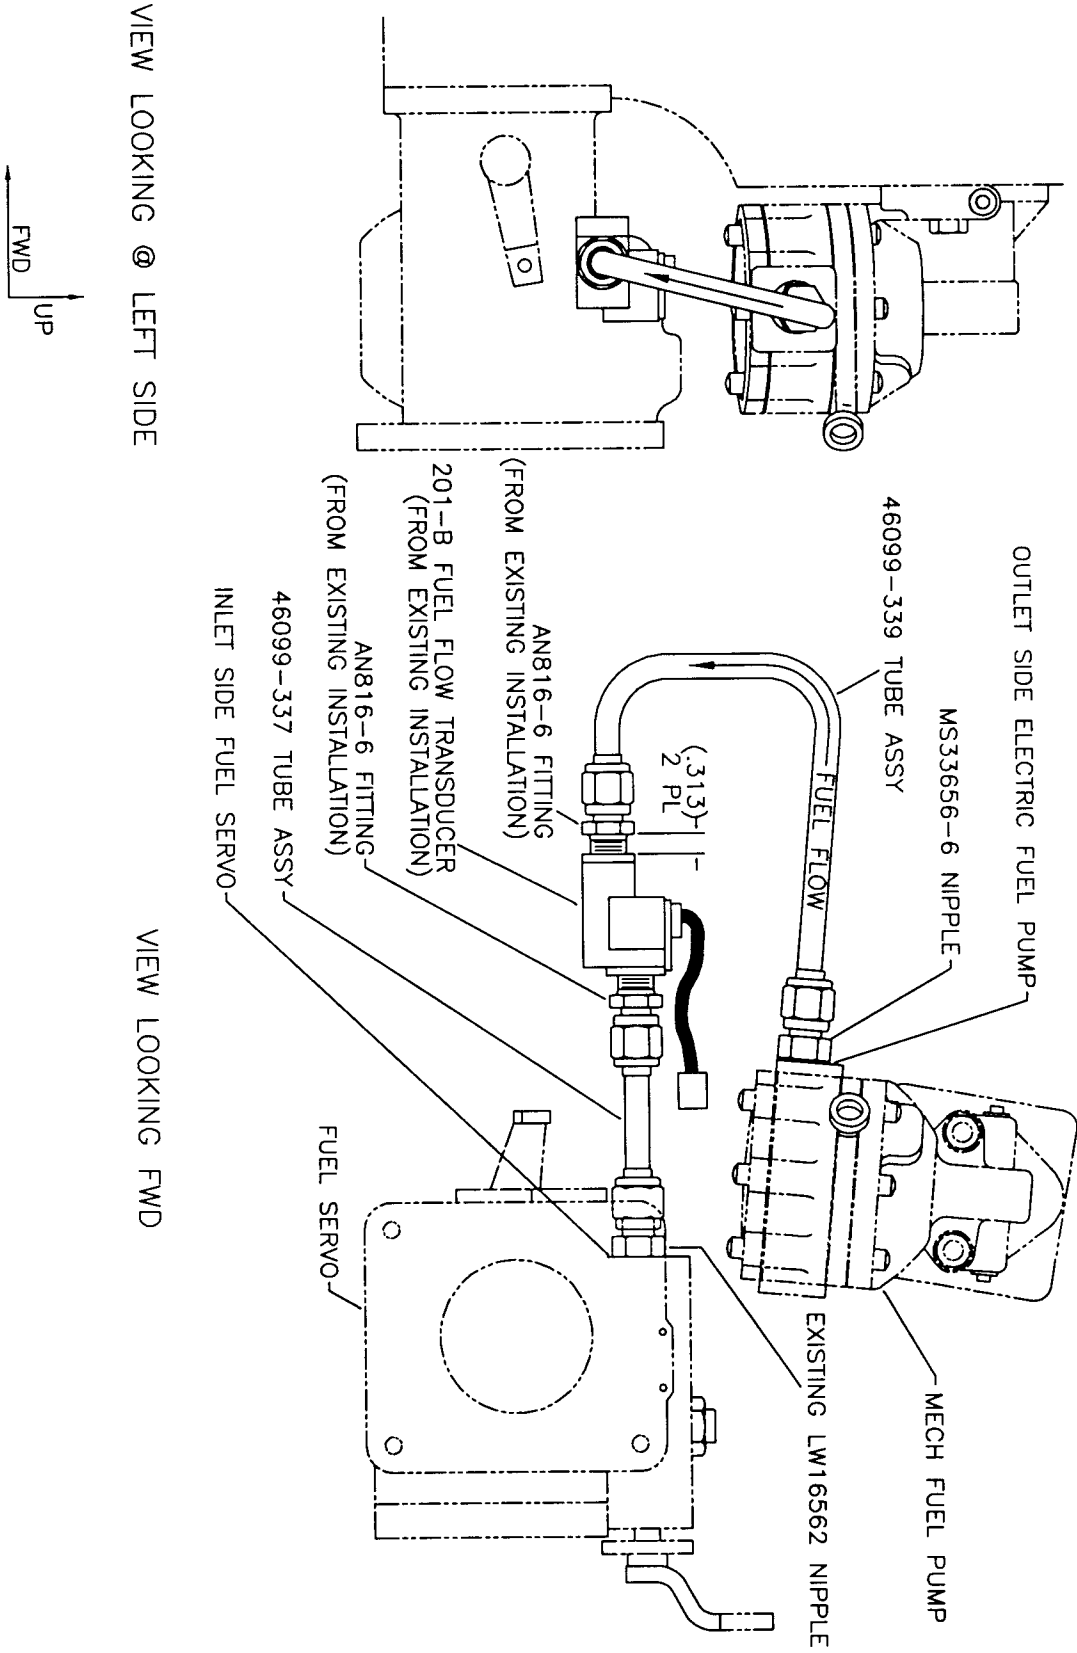

Figure 3
2. Attach the short end of the 46099-339 Tube Assembly to the inlet side of the Fuel Flow Transducer (See Figure 3).
3. Attach one end of the 46099-337 Tube Assembly to the outlet side of the Fuel Flow Transducer (See Figure 3).
4. Attach the long end of the 46099-339 Tube Assembly to the MS33656-6 Nipple attached to the outlet side of the **Engine Driven** Fuel Pump (See Figure 3).
5. Attach the other end of the 46099-337 Tube Assembly to the existing LW16562 Nipple attached to the inlet side of the Fuel Servo (See Figure 3).